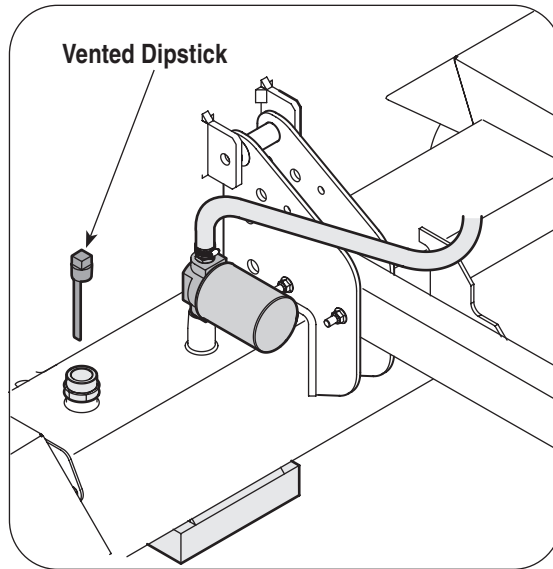

Figure 3-12
2. Remove vented reservoir dipstick, which is located next to the hydraulic filter on top of the reservoir tank. See Figure 3-12.